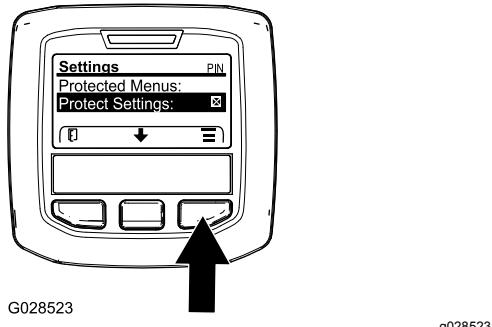

Figure 38
- Access the protected menu and unlock the protected settings submenu (Figure 38); refer to Accessing Protected Menus \(page 20\).